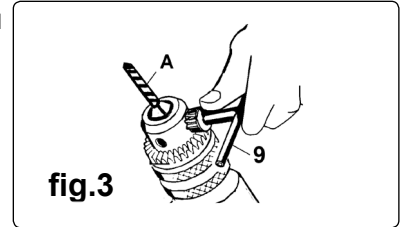

fig.3
Open or close the chuck jaws to a point where the opening is slightly larger than the drill or tool bit to be used. Raise the front of the drill slightly to stop the bit from falling out of the chuck jaws. Insert the drill bit (A) into the chuck as far as it will go. Place the chuck key (9) in one of the chuck holes and tighten the chuck securely (fig 3).